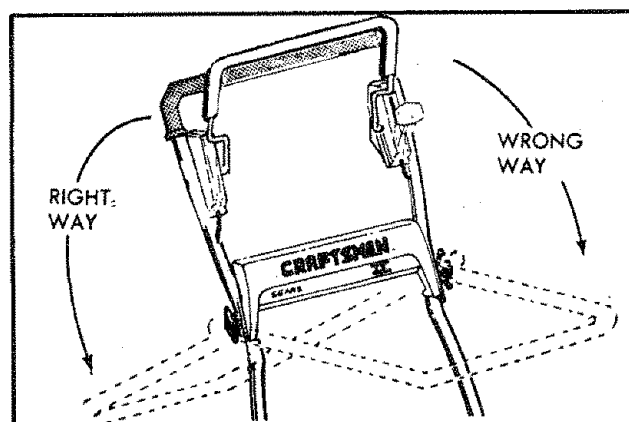

FIG. 5
**CAUTION:** WHEN FOLDING HANDLE FOR TRANSPORTING OR STORAGE, BE SURE TO FOLD HANDLE AS SHOWN IN FIG. 5. IF YOU FOLD HANDLE THE WRONG WAY, YOU MAY BEND THE CONTROL CABLES.